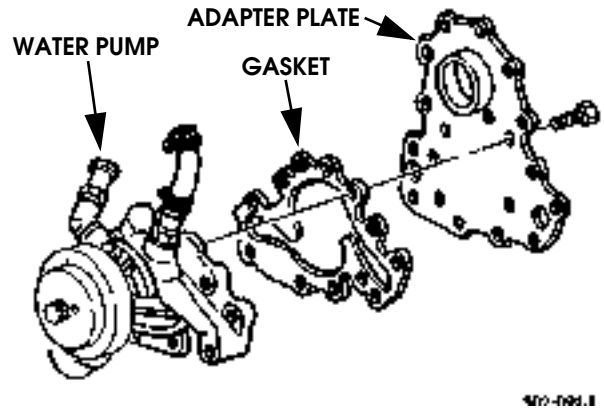

Figure 2-171: Assembling Water Pump and Adapter Plate
1. Apply Permatex #2 to both sides of gasket and install gasket and water pump on adapter plate (Figure 2-171). Tighten adapter plate bolts to 13-20 lb-ft (18-27 N•m).